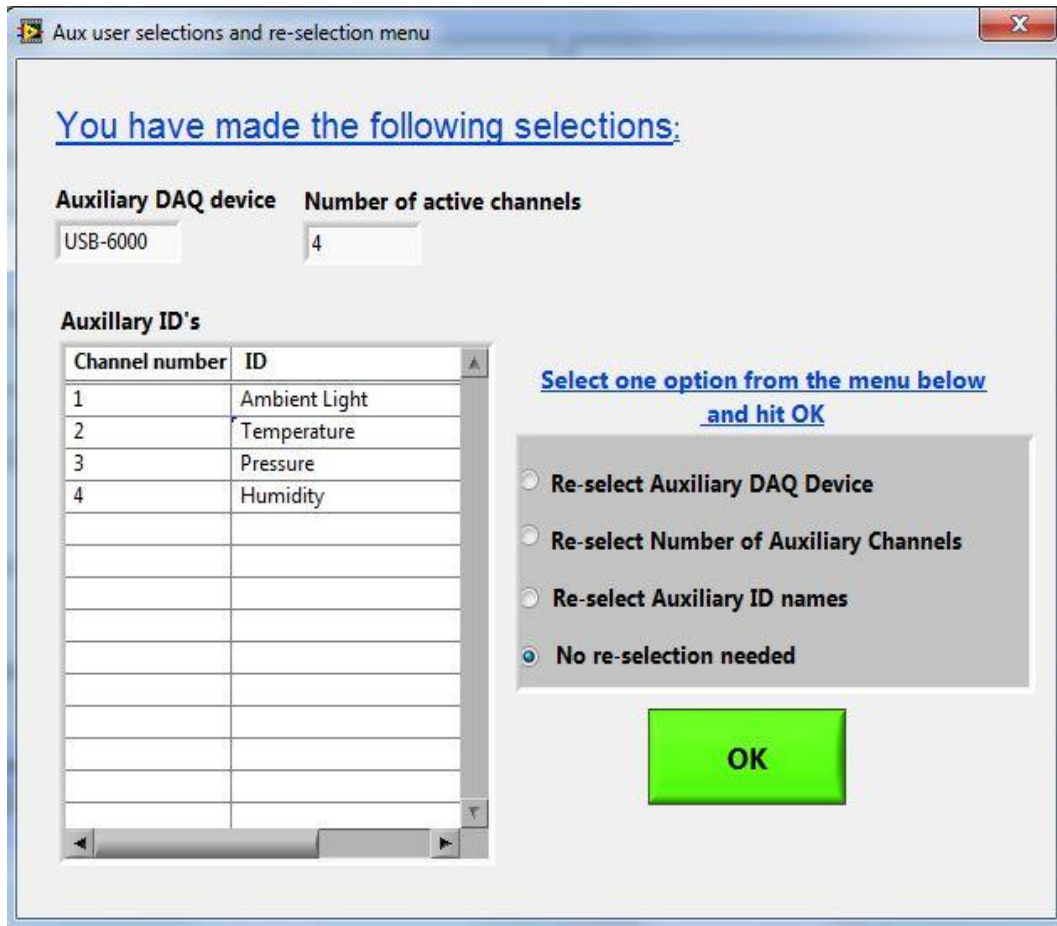

Figure 12. Prompt displaying user selections and the re-selection options for the auxiliary DAQ.
- J. Next, the program displays your auxiliary selections and a re-selection menu, as shown in Fig. 12. If needed, you can re-select the auxiliary DAQ device, number of active channels, or channel IDs. If no re-selection is needed, then select the last option and click *OK* to start data acquisition.